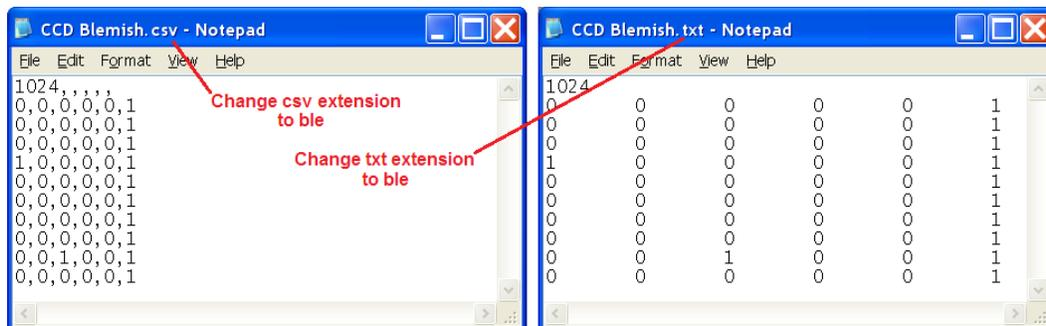

Figure 93. Blemish Files: CSV format and Tab Delimited format
4. For each pixel in a row, enter either a 0 (no blemish) or a 1 (blemish), a comma or tab separator, and press [Enter] after you have completed the entries for that row. Figure 93 shows both comma and tab separated entries.
- Note:** In the files shown in Figure 93, the blemishes did not go beyond the sixth column on the sensor. It was not necessary to enter values for the remaining blemish free columns.
5. If there was only one column blemish and it started in row 1, column 6 of the sensor, you would have five 0s and a 1 in the sixth position as shown in Figure 93. You would repeat this entry in succeeding rows until you reached the limit of the blemish. If there were also individual pixel defects you want corrected, you would replace the appropriate 0s with 1s. Before you can use the blemish file, it must contain the initial row indicating the sensor height and a row of values for each row on the sensor. The blemish file for a 1024 high sensor would contain 1025 rows; for a 200 high sensor, the file would contain 201 rows.